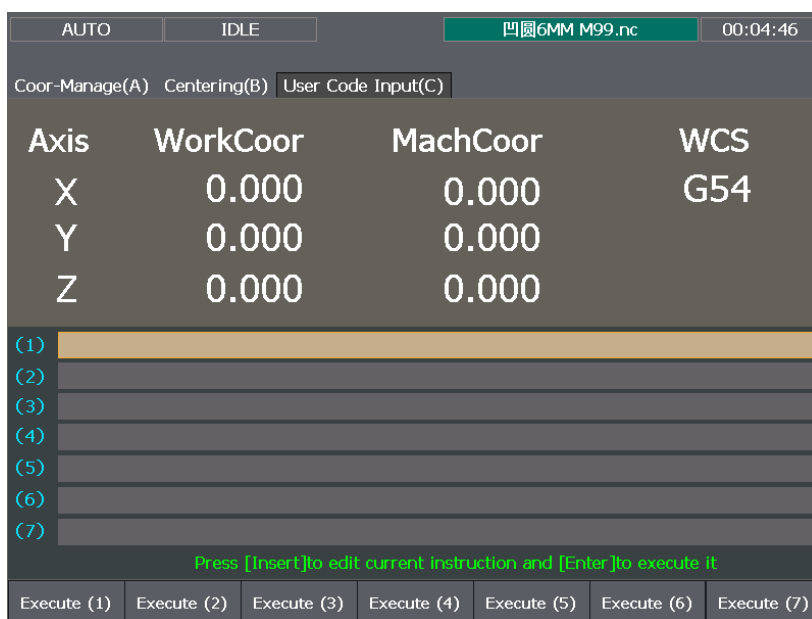

Fig. 3-76 User code input screen
[User Code Input (C)] screen under [Advanced] function section is as shown in Fig. 3-76.